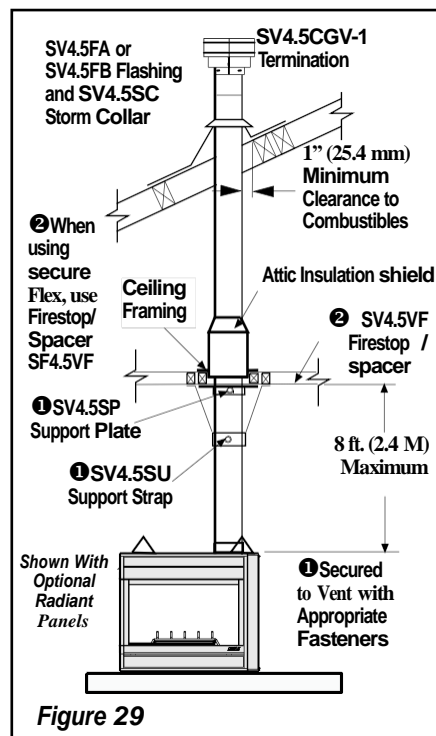

Figure 29
D. Install firestop/spacer at ceiling (Figure 29) - When using Secure Vent, use SV4.5VF firestop/spacer at ceiling joists; when using Secure Flex, use SF4.5VF firestop/spacer. If there is living space above the ceiling level, the firestop/spacer must be installed on the bottom side of the ceiling. If attic space is above the ceiling, the firestop/spacer must be installed on the top side of the joist. Route the vent sections through the framed opening and secure the firestop/spacer with 8d nails or other appropriate fasteners at each corner. **Remember to maintain 1" (25 mm) clearance to combustibles, framing members, and attic or ceiling insulation when running vertical chimney sections. Attic insulation shield (H3907) must be used and may help to obtain the required clearances indicated here. See installation accessories tables on pages 38 and 39.**
Support the vertical portion of the venting system every 8 feet (2.4m) above the fireplace vent outlet. One method of support is by utilizing field provided support straps (conventional plumber's tape). Secure the plumber's tape to the framing members with nails or screws. Loop the tape around the vent, securing the ends of the tape to the framing. If desired, sheet metal screws #6 x 1/2" length may be used to secure the support straps to the vent pipe. Refer to **Figure 29**.